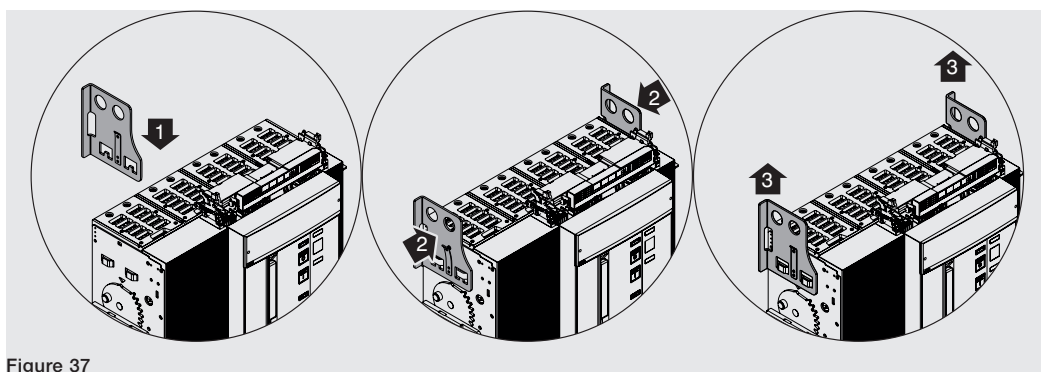

Figure 37
2. Position the lifting plates on the mobile part making sure that the tongue of the plates is latched properly. See Figure 37.